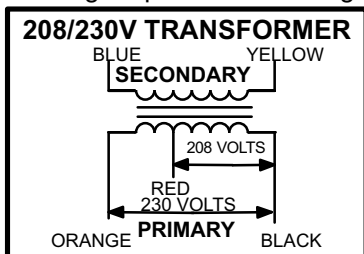

FIGURE 4
All TPA models use a single line voltage to 24VAC transformer mounted in the control box. Transformer T1 supplies power to control circuits in the TPA unit. The transformer is rated at 70VA and is protected by a 3.5 amp circuit breaker (CB8). CB8 is internal to the transformer. The 208/230 (Y) voltage transformers use two primary voltage taps as shown in figure 4, while 460 (G) and 575